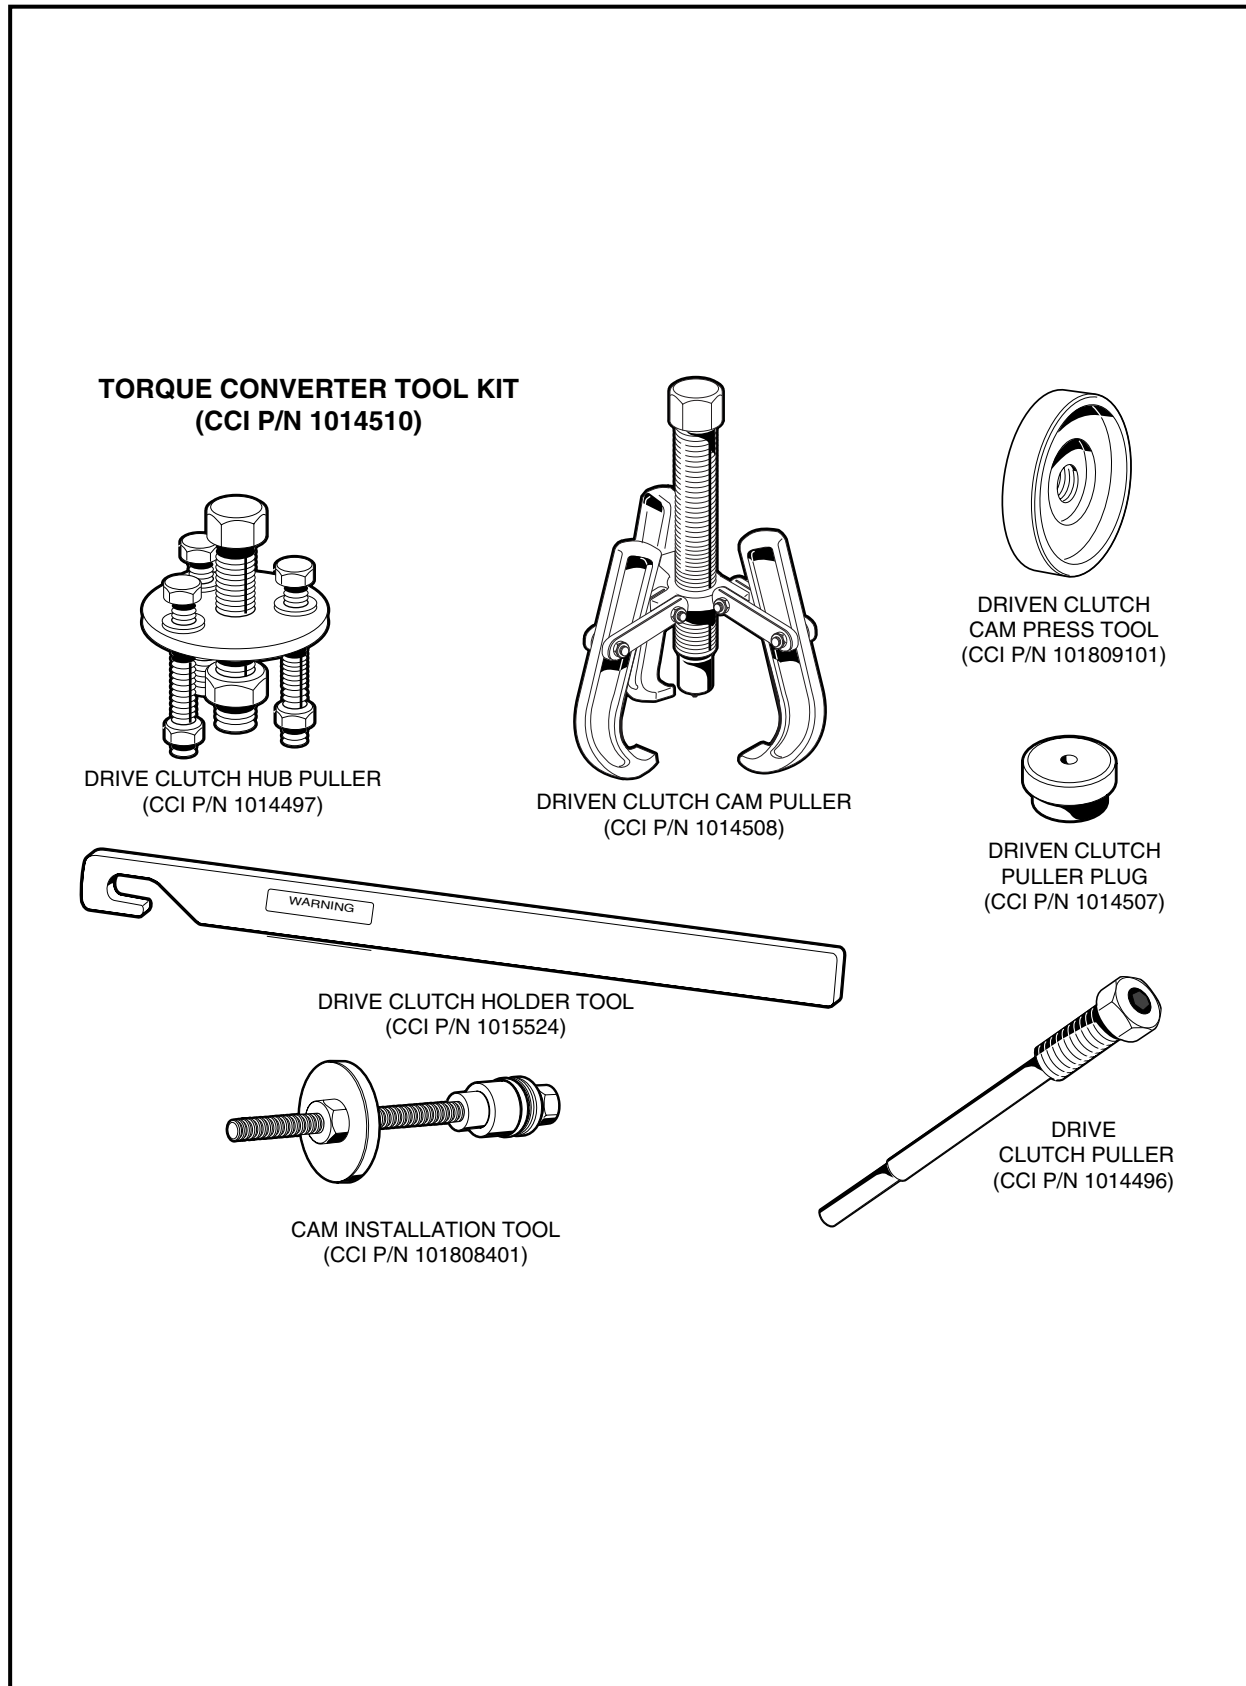

Figure 17-1 Torque Converter Tool Kit
- Torque Converter Tool Kit (CCI P/N 1014510) (**Figure 17-1, Page 17-2**)